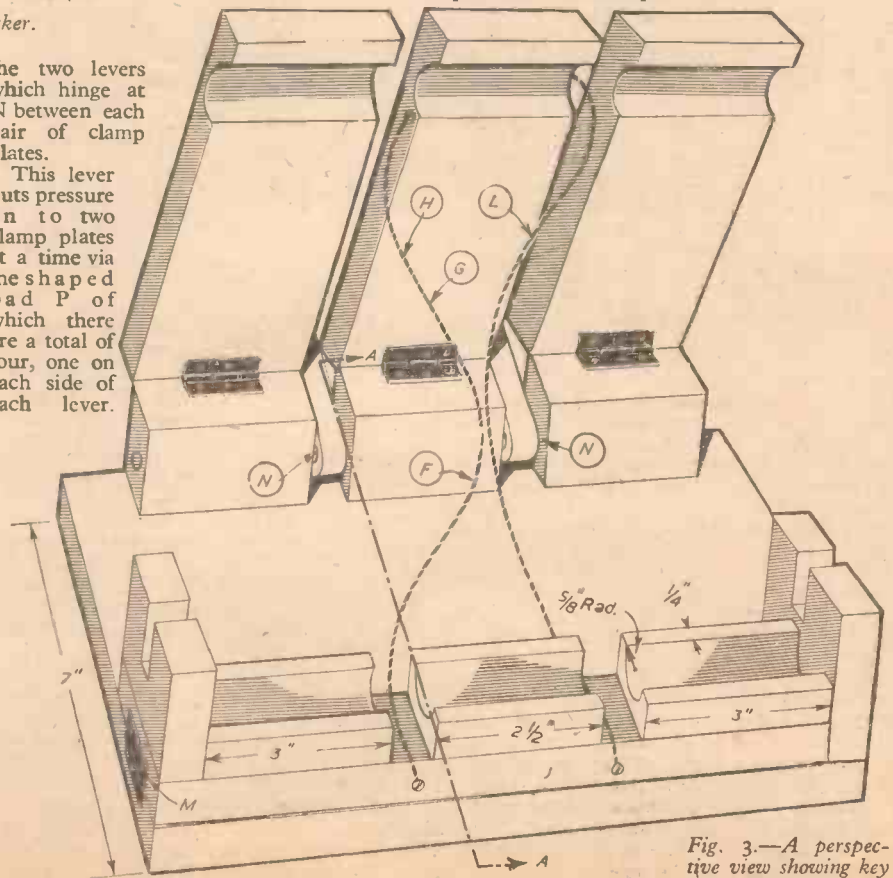

Fig. 3.—A perspective view showing key dimensions.
Figs. 3 and 4 show the general arrangement of the jig. It consists essentially of a support for the rolled up cracker and a set of clamps to hold it firmly while the crimping is done neatly. Three sections of wood are hollowed out as shown with a diameter a little less than that of the finished cracker. They are mounted on a common base (J) which is